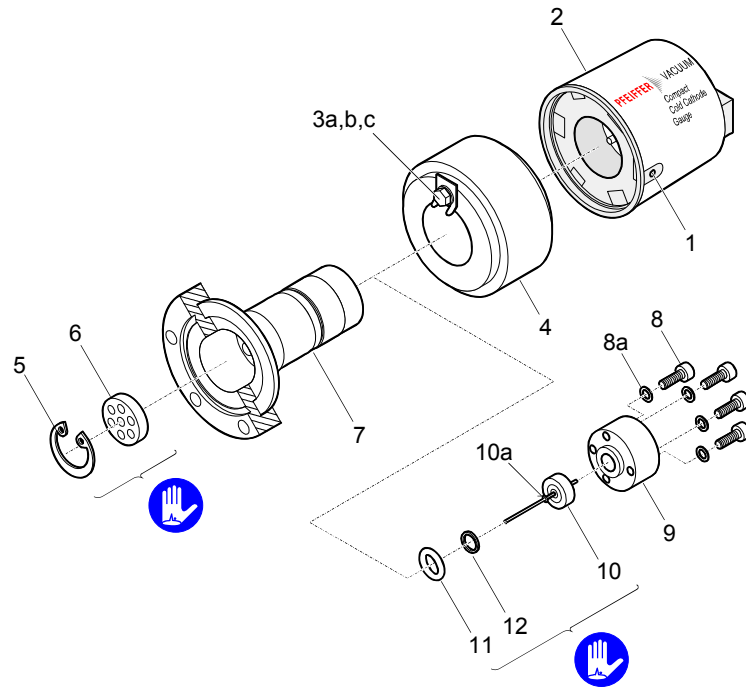

Figure 3
- ➋ Unfasten the hexagon socket set screw (1) on the side of the electronics unit (2) (→ Figure 3).
- Remove the old ignition aid (10a) with tweezers (→ Figure 3).
- Insert the FPM seal (11) with the support ring (12) centered into the measuring chamber. The sealing surface, seal, and ceramic part must be clean (→ Figure 3).
- Carefully insert the anode (10) incl. ignition aid (10a) into the measuring chamber.
- Carefully place the pressure piece (9) on the measuring chamber and tighten it **uniformly** with the four (or two) hexagon socket screws (8) incl. lock washers (8a) until the stop position is reached.
- 6 Slide the polarity insert (6) into the measuring chamber up to the mechanical stop.
- 7 Place the circlip (5) snugly fitting on the polarity insert.